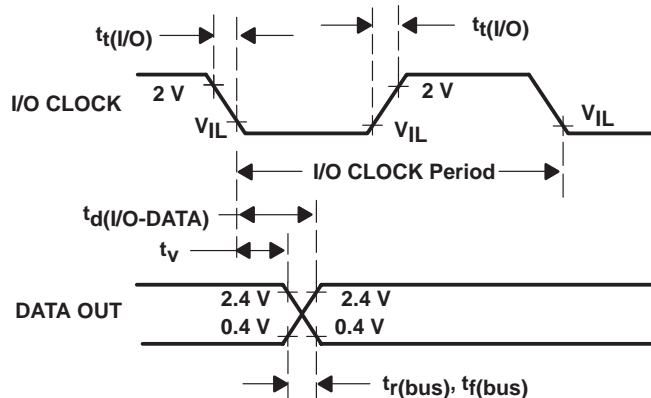

Figure 6. DATA OUT and I/O CLOCK Voltage Waveforms
- I/O CLOCK period =  $1/(I/O\text{ CLOCK frequency})$  (see Figure 6).